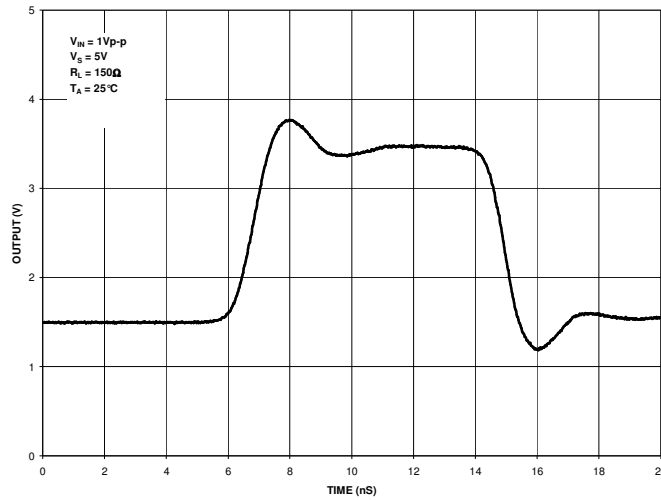

Figure 3. Typical Time-Domain Transmission Response
7. For video-signal evaluation, connect a component-video signal source to the inputs and a monitor and/or video analyzer to the outputs, using equal-length cabling amongst the three video channels. Figure 3 shows a typical pulse response.